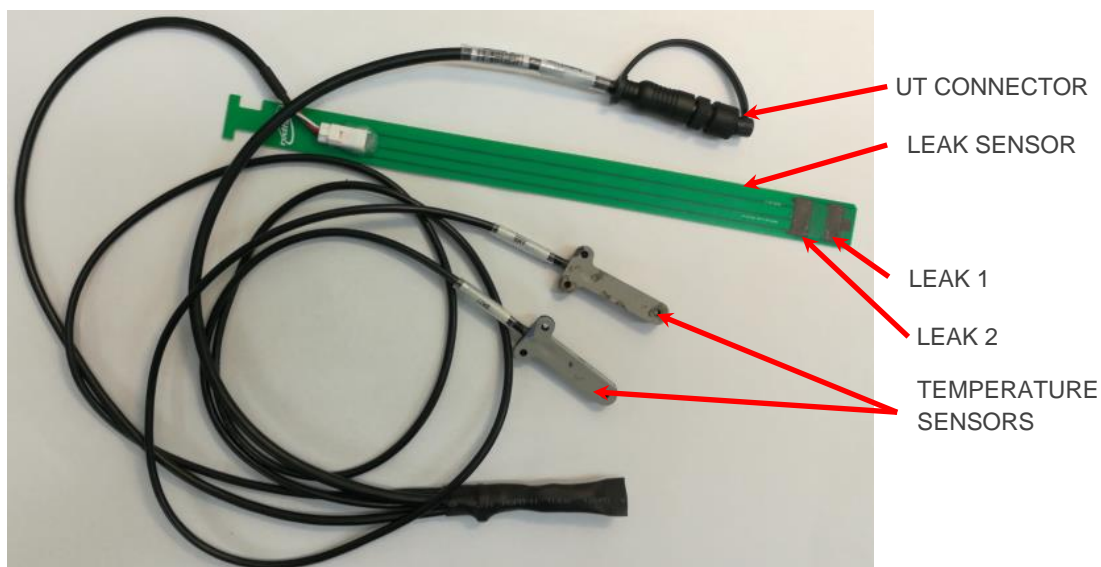

Figure 8: Sensor analog loom
The Analog Loom has the following sensors: Leak Sensor, Ambient Temperature Sensor, and Battery Temperature Sensor (see Figure 8). The Analog Loom 12-pin UT Connector connects to the Loom terminal on the base of BCM.
- The leak sensor uses two level sensors: Leak 1 and Leak 2 (shown in Figure 8). Leak 1 signifies a lower level of electrolyte, and therefore a less significant leak than detected by the Leak 2 reading.